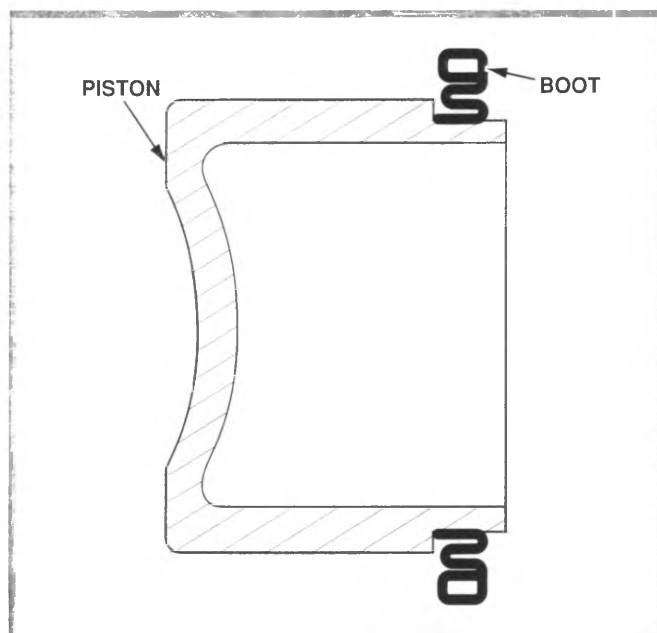

Figure 6-31, Assembled Boot in Piston Groove
14. Lubricate the piston with clean brake fluid. Put the new boot into the piston groove (figure 6-31).